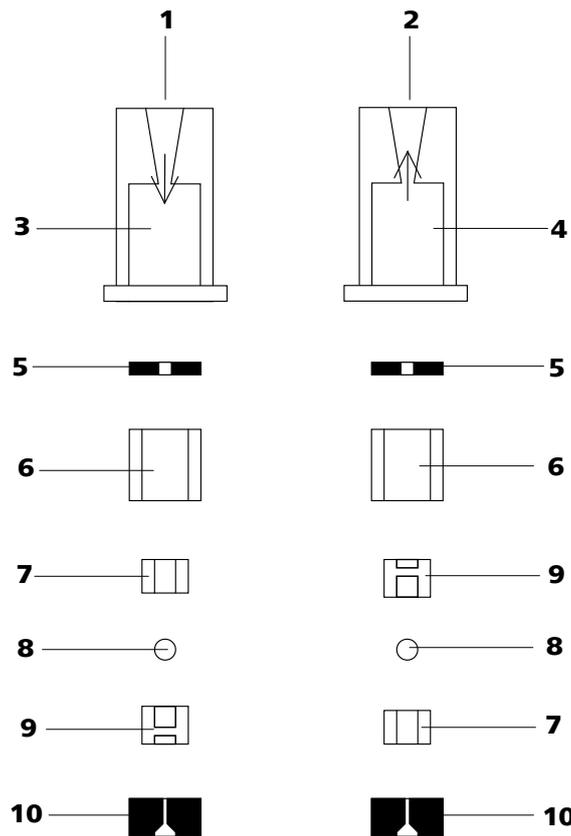

Figure 44 Components of the inlet valve and outlet valve
- The inlet valve and the outlet valve consist of the same, just differently arranged components (see Figure 44, page 81).
Reassemble valve components *according to figure 44, page 81*.
- Lay the other valve components above another in the correct sequence (*see Figure 44, page 81*).
If this is not the case, the valve has to be dismantled again and be assembled correctly (see *Figure 44, page 81*).